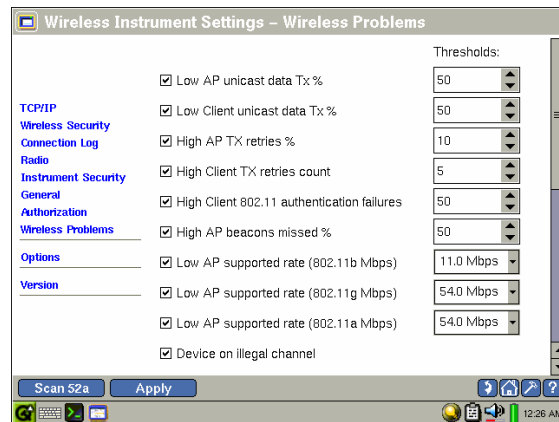

Figure 30. Wireless Instrument Settings—Wireless Problems Screen
1. Tap the **Wireless Problems** hyperlink to display the **Wireless Instrument Settings—Wireless Problems** screen (Figure 30).